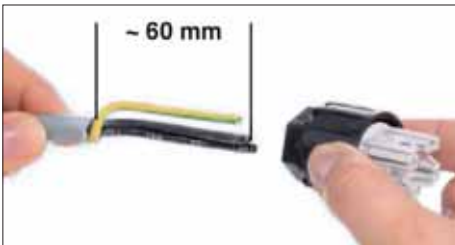

fig. 1
- 3) Connect mains supply cable leads to the provided separate connector as shown in fig. 1 to fig. 4